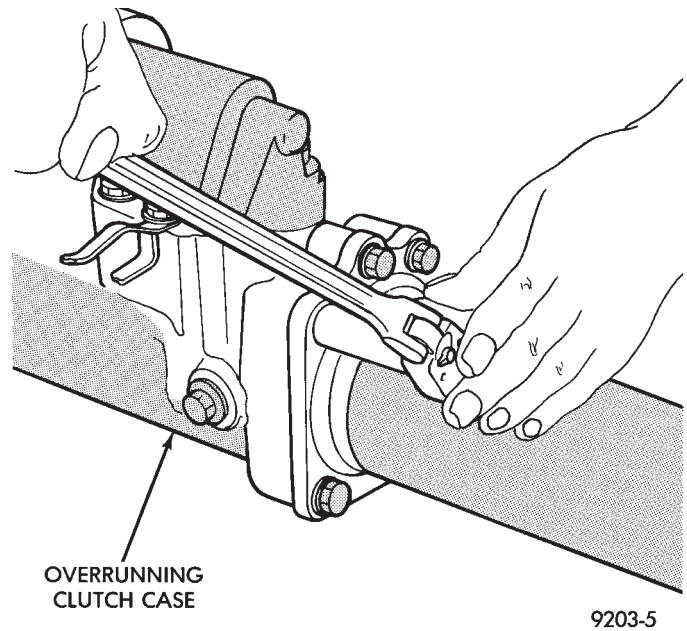

Fig. 14 Torque Tube Bolts
(11) Remove torque tube retaining bolts (Fig. 14).